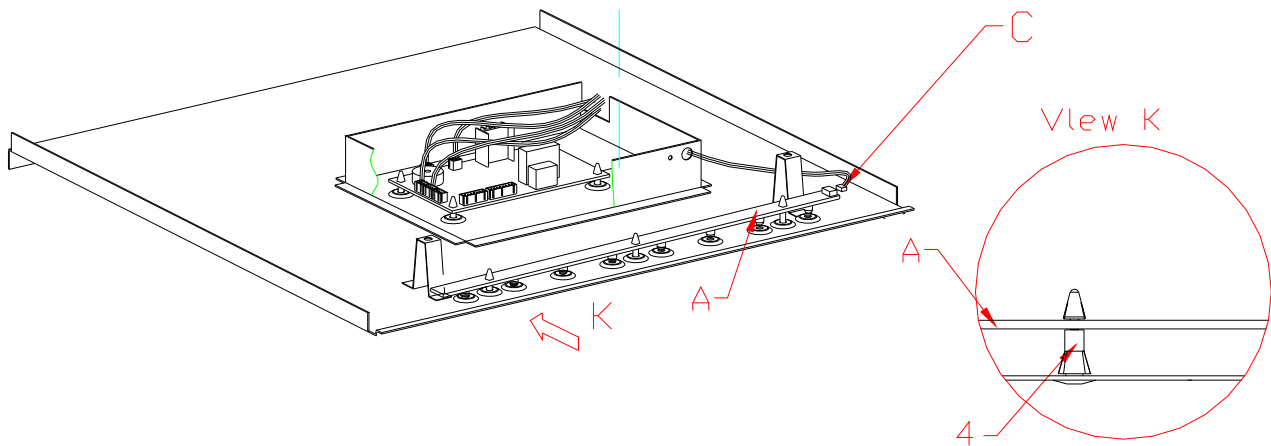

Fig. 14
2. How to replace middle and lower LED light:(Fig.14)
3>, Disconnect the connector(C),pinch the head of the plastic nail,pull up the display,take the PCB away from nail one by one,and take apart the light PCB,replace it.( Fig.14)